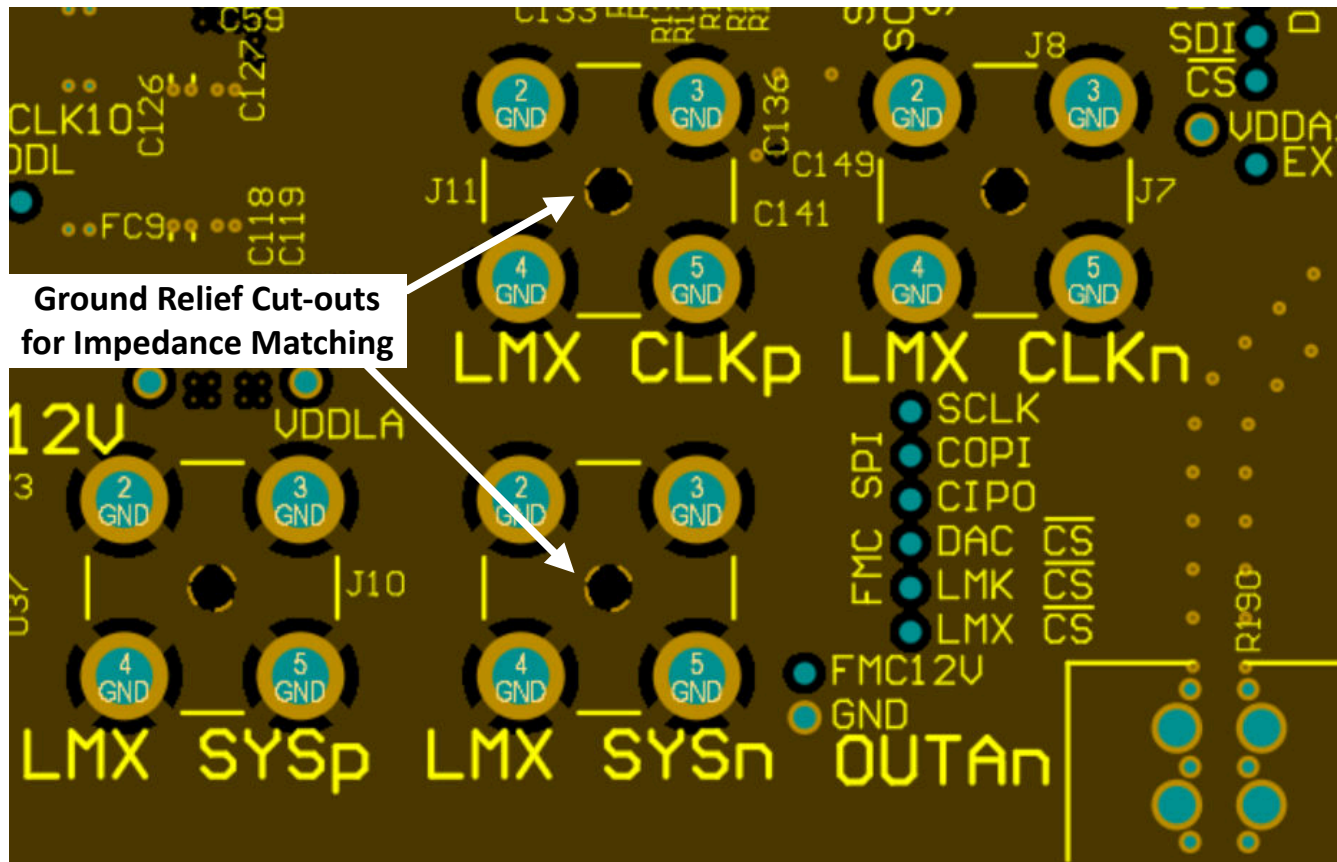

Figure 8-25. Ground Cut-out Below SMA Connector Center Pin
5. Incorporate any ground plane cutouts necessary at component landing pads, ie – SMA connectors, baluns, etc., to avoid impedance discontinuities at these locations. Cut-outs below these landing pads on one or multiple ground planes to achieve a pad size or stackup height that achieves the needed 50-Ω, single-ended impedance. See Figure 8-24 and Figure 8-25 as an examples.